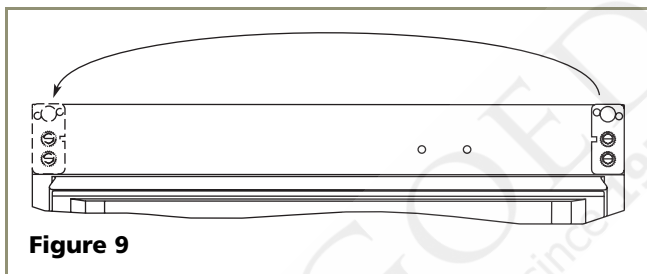

Figure 9
7. With bottom of door facing up, remove pivot plate (2 screws), flip over, and remount on opposite side of door (see **Figure 9**). Be sure notch in plate faces center.